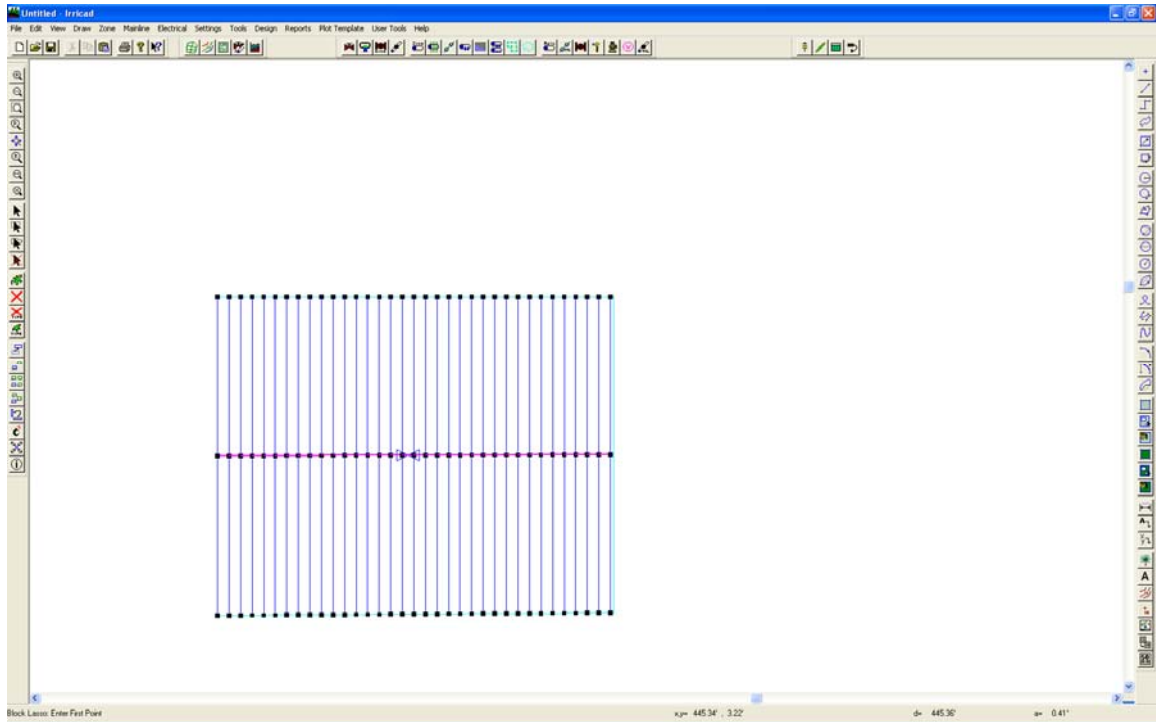

Figure AD 2
6. Now move the cursor to the bottom left of the screen and draw the outline of the block: left-click then draw a line upwards for **165ft (50m)** as seen on the status bar d=165 (50) (approximately). Left-click the mouse to place a vertex at this point and then continue drawing the block area by moving **200ft (60m)** to the right and then left-clicking. Now proceed downwards for **165ft (50m)** left-click then *Right-click/Close* after the third point has been placed. Because we selected "User Defined" for the "Lateral Direction" we now have to enter two points that define the direction (this will be indicated in the bottom left of the status bar). *Right-click/Snaps/Endpoint* and click on the left top corner of the rectangle. Now you will notice that the status bar is asking for the 2nd point in the block lateral. *Right-click/Snaps/Endpoint* and click on the bottom left corner. Once this is completed the laterals are automatically drawn, with a submain through the centre of the block and with a central valve as in Figure AD 2.